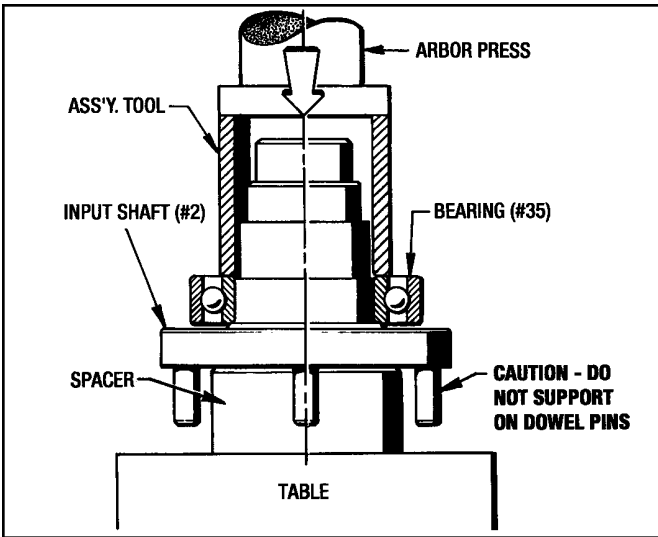

Figure 9.2 - Installing Bearing (#35) on Quill Shaft
1. With an arbor press and the appropriate Assembly Tool, install Inboard Bearing (#35) onto the Input Shaft (#2) as shown in Figure 9.2.